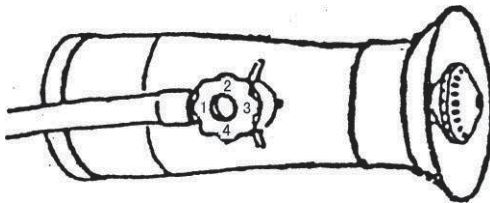

Fig.11
1) Misting. Loosen the pressing lid, regulate the length of the nozzle opening to meet the different requirement of misting. Turn the regulating valve to change the amount of misting. See Fig 11.